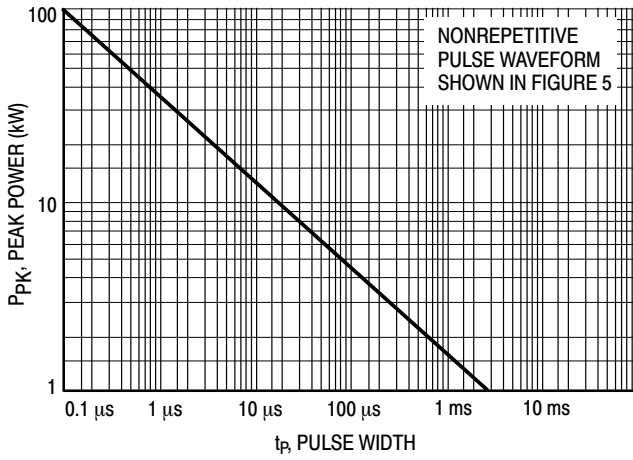
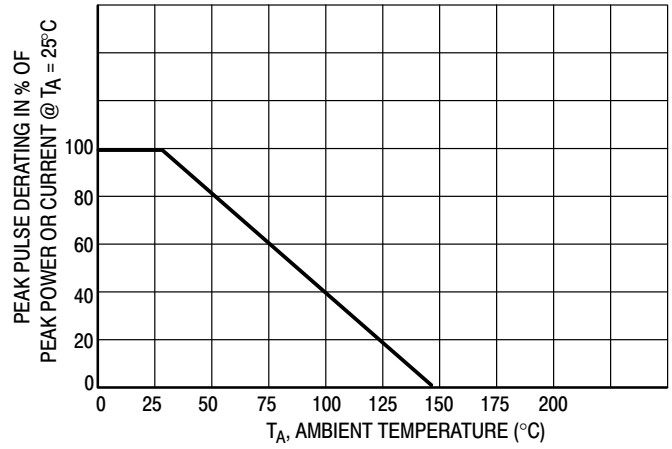
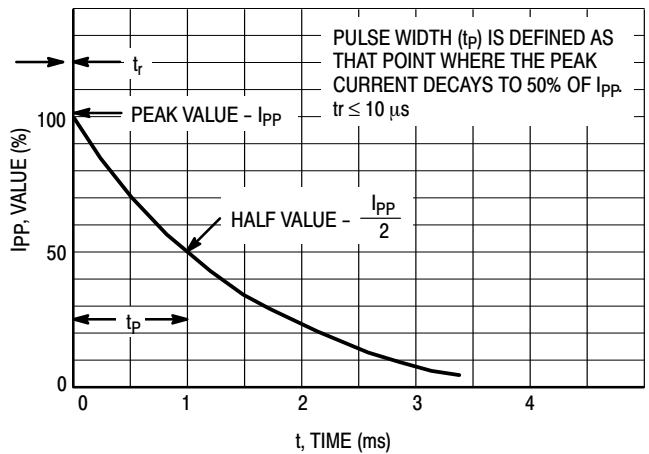
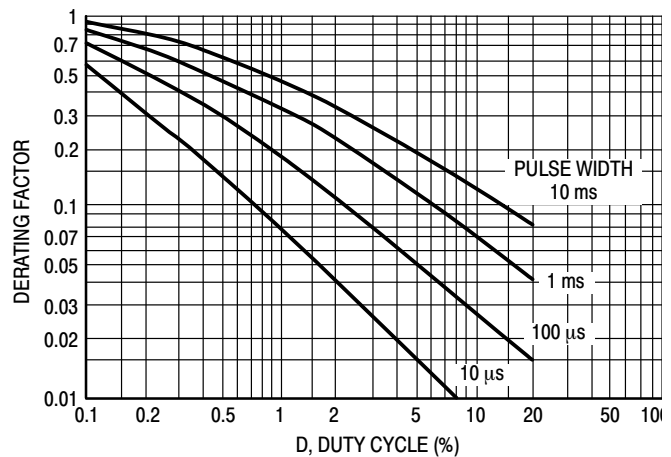

Figure 1. Pulse Rating Curve
Figure 2. Pulse Derating Curve
Figure 5. Pulse Waveform
Figure 7. Typical Derating Factor for Duty Cycle
1. Nonrepetitive current pulse per Figure 5 and derated above  $T_A = 25^\circ\text{C}$  per Figure 2.
7. Surge current waveform per Figure 5 and derate per Figures 1 and 2.
The data of Figure 1 applies for non-repetitive conditions and at a lead temperature of 25°C. If the duty cycle increases, the peak power must be reduced as indicated by the curves of Figure 7. Average power must be derated as the lead or ambient temperature rises above 25°C. The average power derating curve normally given on data sheets may be normalized and used for this purpose.
At first glance the derating curves of Figure 7 appear to be in error as the 10 ms pulse has a higher derating factor than the 10 μs pulse. However, when the derating factor for a given pulse of Figure 7 is multiplied by the peak power value of Figure 1 for the same pulse, the results follow the expected trend.